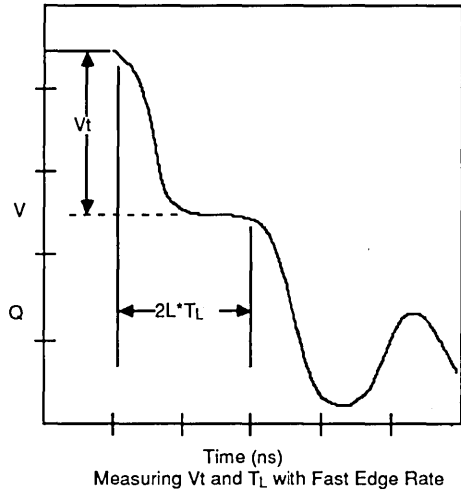

Figure 6B.
d. Now change the setting on the pulse generator to get the fastest rise and fall time. Observe the high to low transition on the oscilloscope. Note that there is a step in the output transition as shown in Figure 6B. Record the amplitude of the first segment of the output transition (V_t) and time interval between the start of the first transition and the start of the second transition (2L x T_L).
device may not respond to the signal at the driving end (see Figure 6B) until the reflected wave reinforces the signal after a turn-around delay along the PCB trace. This implies that if a driver is driving a PCB trace from one end, the receiver nearer to the driver will respond *after* the receiver at the far end of the PCB trace. Such skew may be unacceptable in certain conditions.